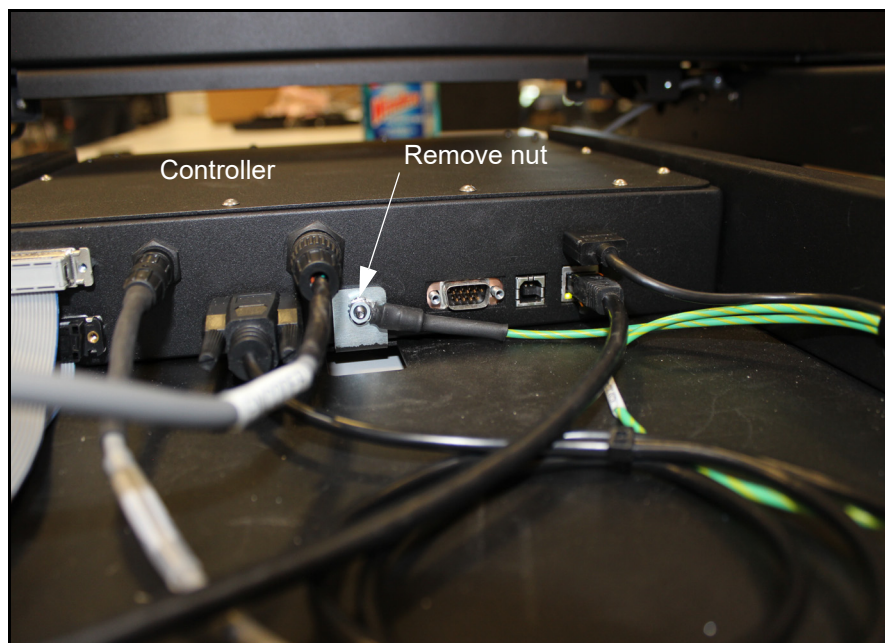

Figure 47
5. Locate the controller (the black box located below the gate's home position). Remove the nut using an 11/32" nut driver (see Figure 47).